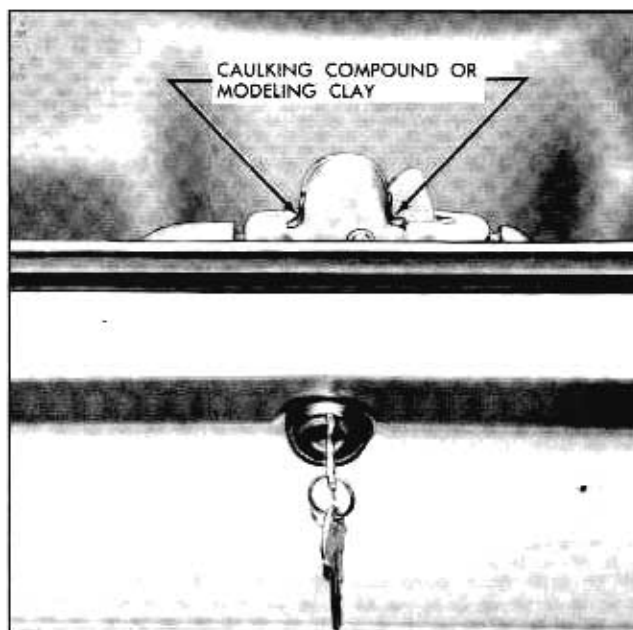

Fig. 10A-54 Rear Compartment Lock Striker Engagement Check
2. Remove three (3) rear compartment lock attaching screws (Fig. 10A-53) and remove lock.